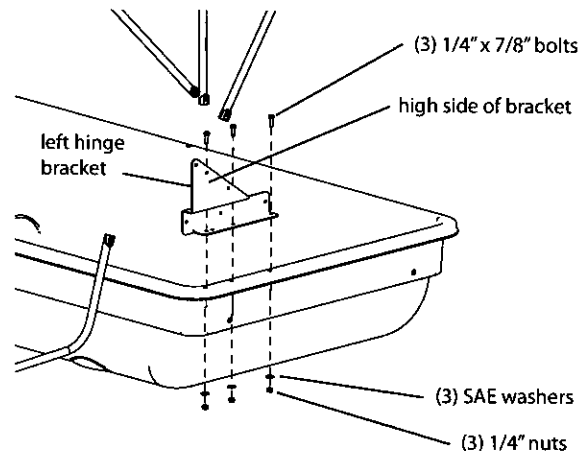

Figure 1B (left side shown)
1. Attach the left hinge assembly (68426) to the upper lip of sled using (3) provided 1/4-20 x 7/8" bolts, nyloc nuts and SAE washers. **SEE FIGURE 1B.**
NOTE: Be sure hinge assembly is orientated as shown in **FIGURE 1B**, with high sides of hinges placed to the front of sled and hinge poles to the inside.